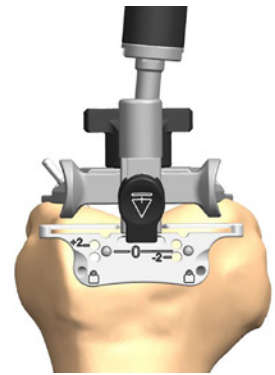

Figure 8
- Using non-headed 65mm SPEED PIN[®](s), pin the distal femoral cutting block to the anterior femur using the holes marked '0'. Once adequate distal femoral resection is noted, headed or non-headed 65mm SPEED PIN(s) should be placed in one or both oblique pin holes for additional stability (Figure 8).